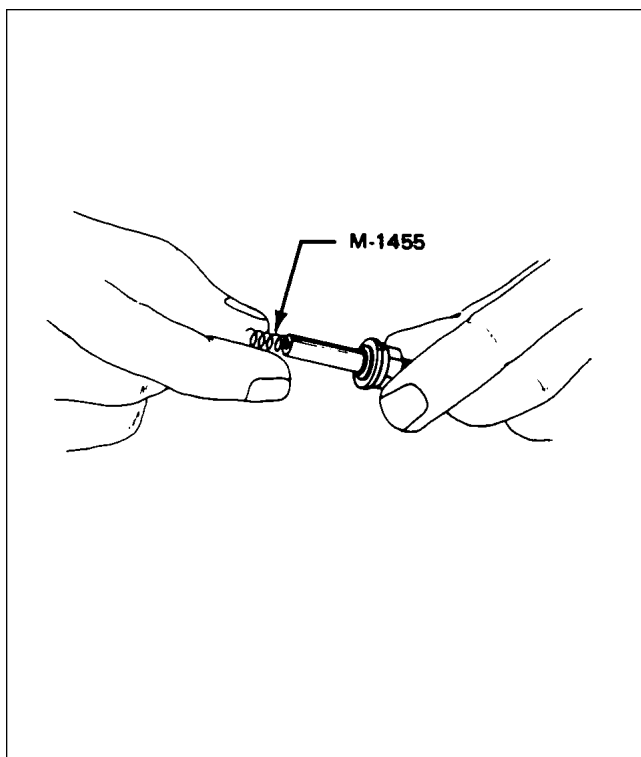

Figure 74-27. Installation of Spring
- o. Turn M-1455 spring clockwise on electrode screw three full turns until end is flush with first large coil of spring. This applies to both ends of wire. Refer to Figure 74-27.